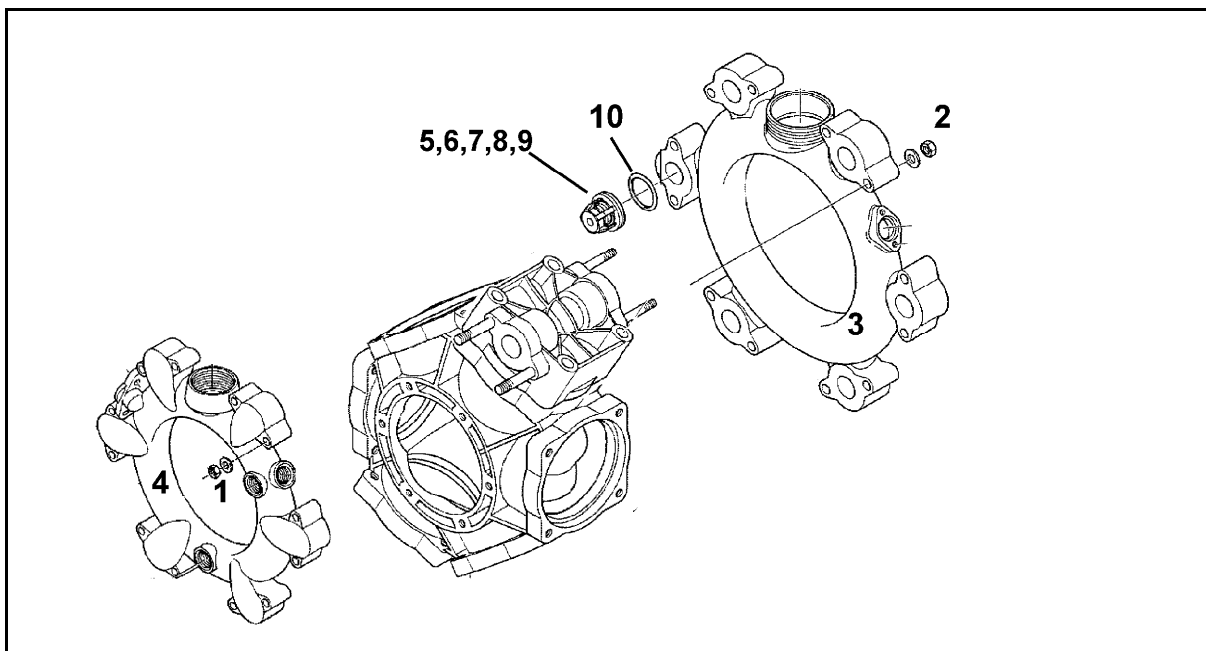

Fig. 175
1. Check whether the oil level is visible at the mark (Fig. 175/1) with the pump not running and standing on a flat surface.
2. If the oil level is not visible at the mark (Fig. 175/1), remove the lid (Fig. 175/2) and top up with oil.
2. Remove the lid (Fig. 175/2).
5. Turn the drive shaft left and right alternately and slowly fill with new oil. The right quantity of oil has been reached when the oil is visible at the mark (Fig. 175/1).
- Pay attention to the respective installation positions of the valves on the suction and pressure sides before removing the valve groups (Fig. 175/5).
- When reassembling, ensure that the valve guide (Fig. 175/9) is not damaged. Damage may cause the valves to jam.
- Always tighten the nuts (Fig. 175/1,2) in a crosswise fashion using the specified torque. Improper tightening of the screws causes warping, which results in leaks.
2. Remove the nuts (Fig. 175/1,2).
3. Remove the suction and pressure port (Fig. 175/3 and Fig. 175/4).
4. Remove the valve groups (Fig. 175/5).
5. Check the valve seat (Fig. 175/6), valve (Fig. 175/7), valve spring (Fig. 175/8) and valve guide (Fig. 175/9) for wear or damage.
6. Remove the O-ring (Fig. 175/10).
8. After testing and cleaning, fit the valve groups (Fig. 175/5).
9. Insert new O-rings (Fig. 175/10).
10. Mount the suction (Fig. 175/3) and pressure port (Fig. 175/4) on the pump housing.
11. Tighten the nuts (Fig. 175/1,2) in a crosswise fashion using a torque of **11 Nm**.